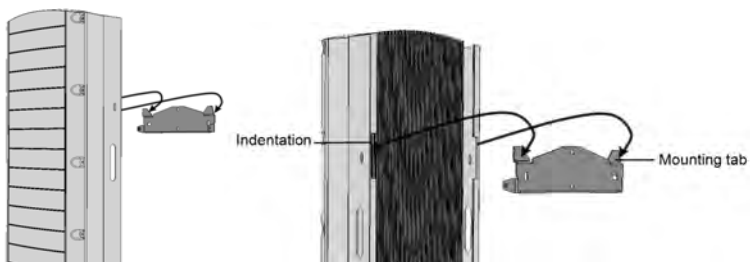

Figure 9: Hanging the inverter on the bracket
- Ensure that the flat edge of the bracket is at the bottom, as in *Figure 9*.
5. Hang the inverter on the bracket (see *Figure 9*): Lift the inverter from the sides, or hold it at the top and bottom of the inverter to lift the unit into place.
7. Insert the two supplied screws through the outer heat sink fins on both sides of the inverter and into the bracket (see *Figure 9*). Tighten the screws with a torque of 4.0 N*m / 2.9 lb.*ft.